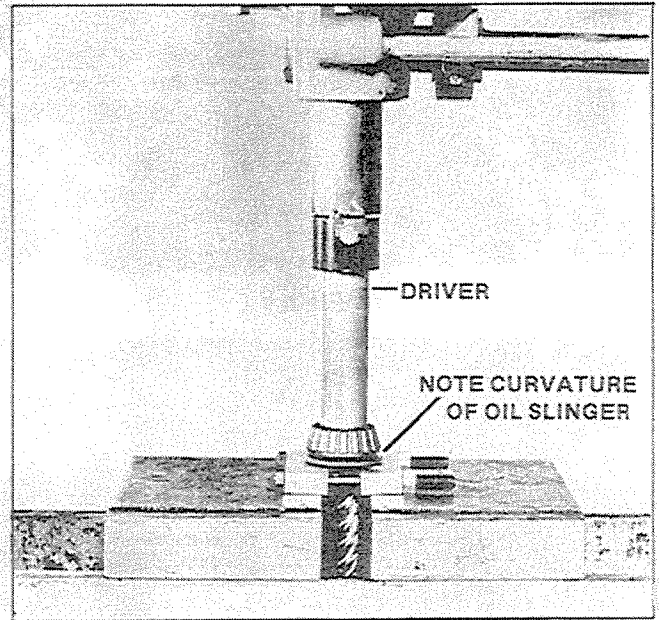

Figure 13
2. Install the two bearings and oil slinger onto the worm shaft using a driver, and an arbor press, press on outer bearing first. Fit oil slinger to the other end of the worm shaft and press the inner bearing down tight against the convex side of the oil slinger. Figure 13.